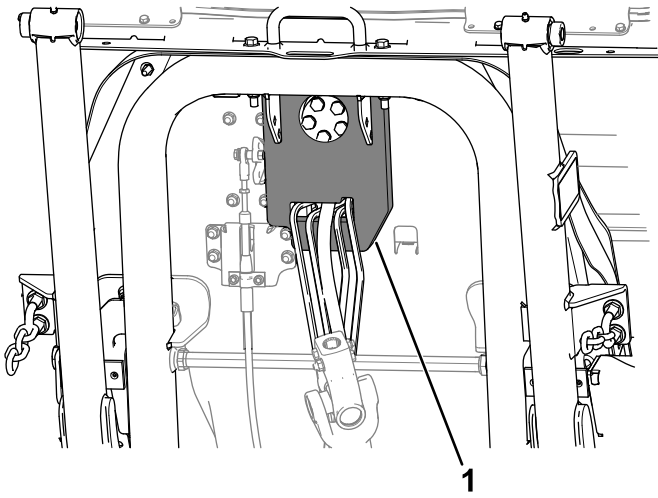

Figure 5
5. Install the lower steering plug as shown in Figure 5. Ensure that it is adhered to upper steering plug.